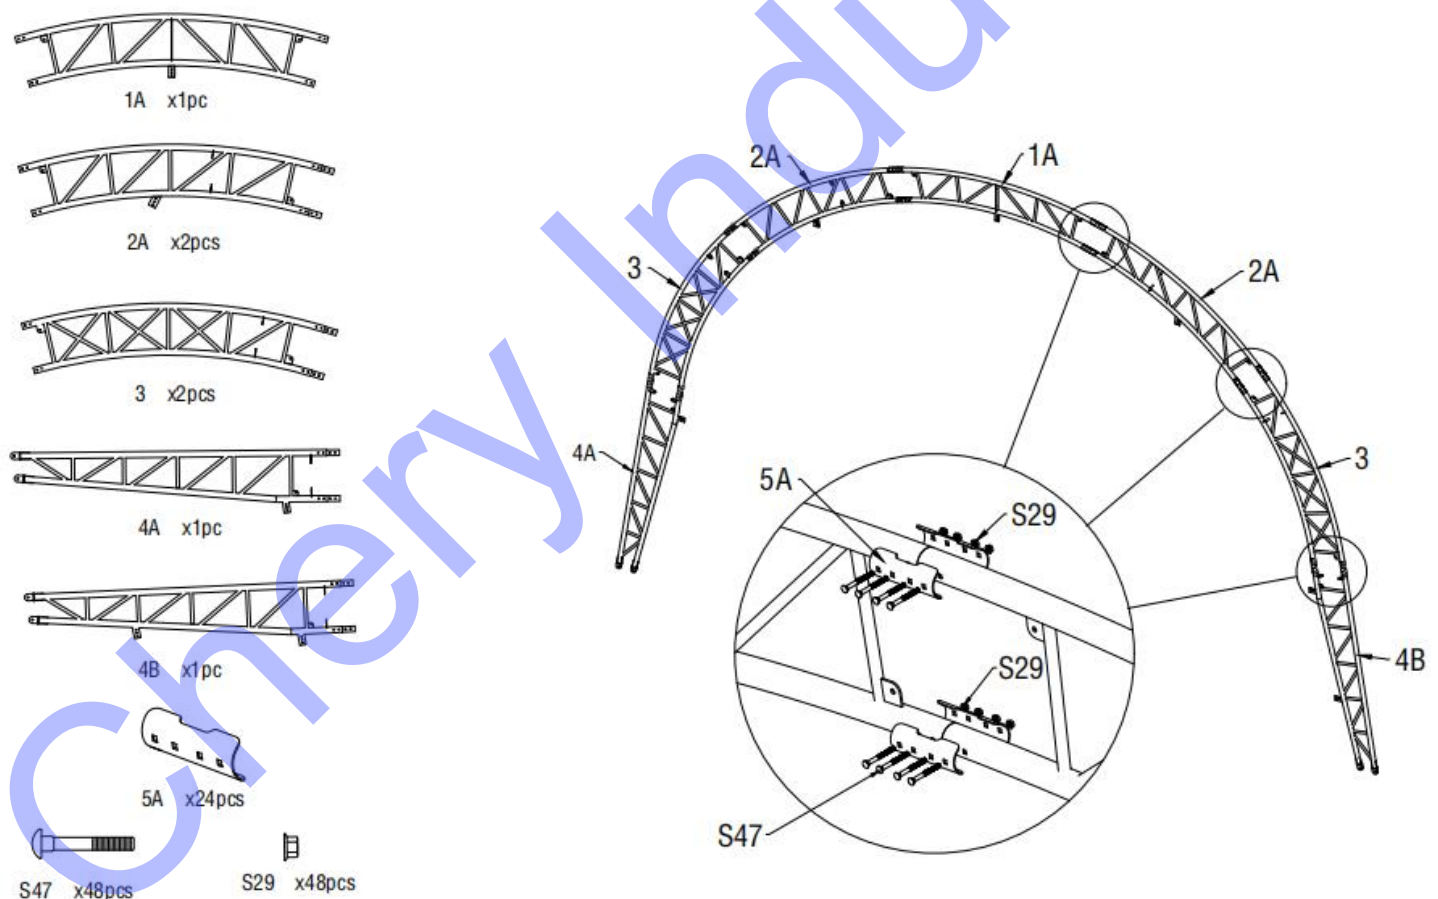

Figure 3
1. As Figure 3 shown to find one Top roof tube in the front and back door (No.1A), two Roof upper curving tube in the front and back door(No. 2A), two Roof middle curving tube in the front and back door (No. 3) ,two Lower curving tube in front and back door(4A&4B) and assemble the first and final group arch with Carriage bolt M8x70 (No.S47). **DO NOT install the screw on the top of the truss where the fabric will rest.**